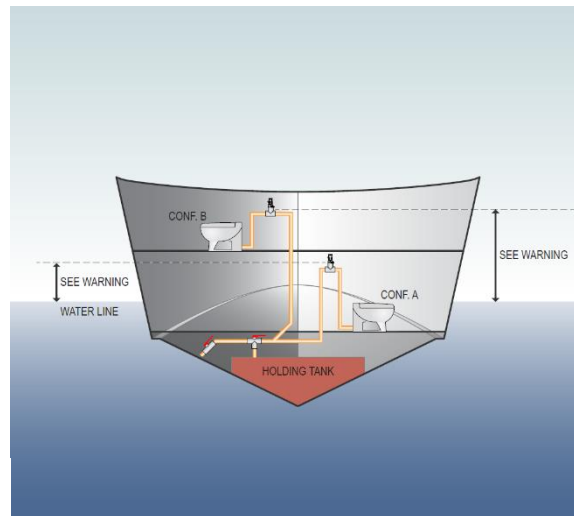

Fig. 1
**WARNING:** Toilet configuration (A). The toilet is installed below the floating line. Install a VENT VALVE at a height greater than the line. See fig. 1.
**WARNING:** Toilet configuration (B). Toilet installed above the floating level. Install a VENT VALVE to prevent siphoning phenomena that may cause unpleasant odours. See fig. 1.